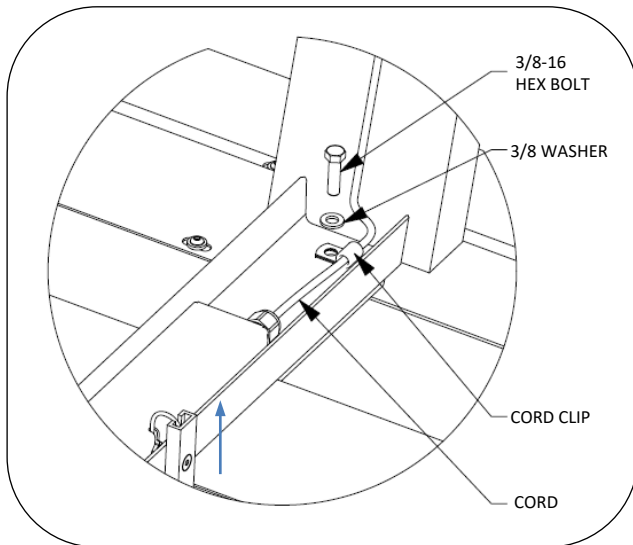

Fig. 4 – attach cord clip
5. Remove bolt and washer as shown in Fig. 4. Retain hardware.
6. Run cord along table support leg and secure with cord clip using existing bolt and washer, see Fig. 4.